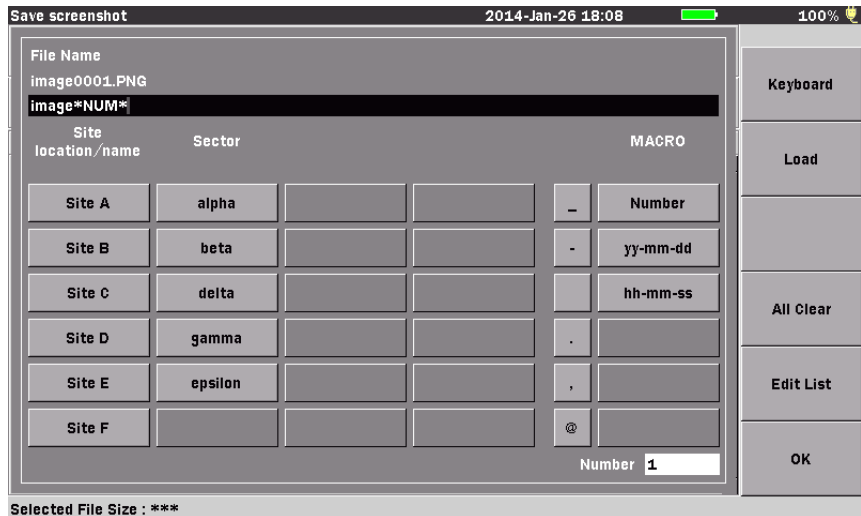

Figure 3-21: File Name dialog box
2. When the Save screen (for saving test data) or the Save screenshot screen appears, press the **Enter key**. The FileName dialog box appears (see Figure 3-21, below). If no USB keyboard is connected, follow the instructions from step 3. to enter the name using the front panel keys. If a USB keyboard is connected, you can modify the name directly from the keyboard. When all of the desired characters are entered, press the **Enter key** to use the new file name or press the **ESC key** to close the File Name dialog box without changing the file name.
1. Press **Edit List (f5)** to display the Edit List screen on the Figure 3-21: File Name dialog box.
1. Use the **Up** and **Down Arrow keys** (or **Rotary knob**) to select the Number field on the Figure 3-21: File Name dialog box. Press the **Enter key** to display the Number dialog box.